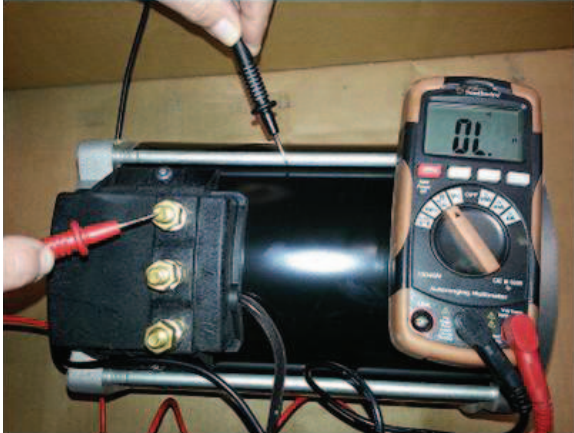

Fig. 24 Terminal and Motor case
4. Place one meter probe on any of the three motor terminals. The other meter probe should be placed on the motor case. No continuity should be observed (Ref. Fig. 24).